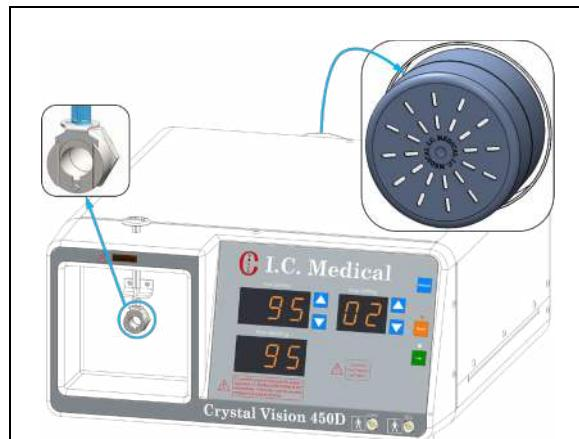

Figure 18: Input Filter Connector holds **SAFEGUARD BLUE®** Hydrophobic ULPA Filter with Built-in Fluid Trap. Large Coconut Charcoal Output Filter
14. **INPUT FILTER CONNECTOR** (Figure 18) holds the **SAFEGUARD BLUE®** Hydrophobic ULPA Filter with Built-in Fluid Trap. The metal ring is pushed down to allow the **SAFEGUARD BLUE®** Hydrophobic ULPA Filter with Built-in Fluid Trap, to be released. Replace cap on end of **SAFEGUARD BLUE®** Hydrophobic ULPA Filter with Built-in Fluid Trap between uses. Change the **SAFEGUARD BLUE®** Hydrophobic ULPA Filter with Built-in Fluid Trap when CHANGE FILTER indicator illuminates.
15. **Large Coconut Charcoal OUTPUT FILTER CONNECTOR** (connector not shown) (Figure 18). The Large Coconut Charcoal OUTPUT FILTER CONNECTOR is located on the back panel of the CRYSTAL VISION®. The Large Coconut Charcoal Output filter- is reusable for several cases. The Large Coconut Charcoal Output filter has a functional life of three months. The Large Coconut Charcoal Output filter provides odor control and reduces vacuum pump noise.